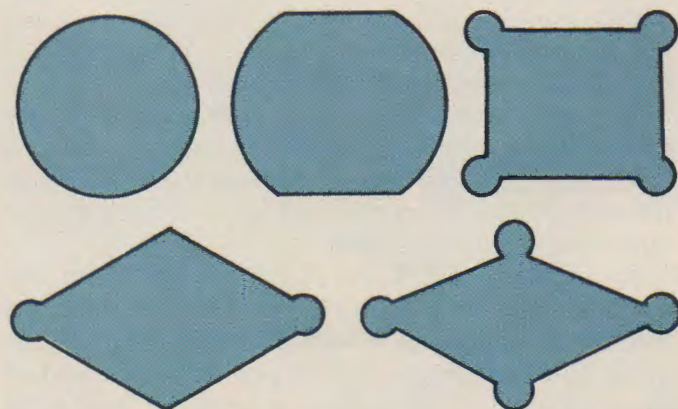

Fig. 22-16. Saw manufacturers often use exclusive arbor shapes.
8. Install the replacement blade. The teeth should point upward toward the front. Make sure the blade seats properly and the arbor hole matches the arbor, Fig. 22-16. Instructions are printed on some blades for matching the blade hole.